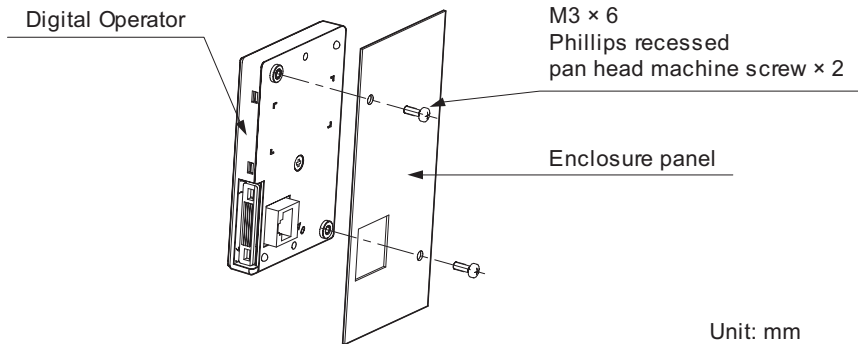

Figure 2.6 External/Face-Mount Installation
2. Position the digital operator so the display faces outwards, and mount it to the enclosure panel as shown in Figure 2.6.